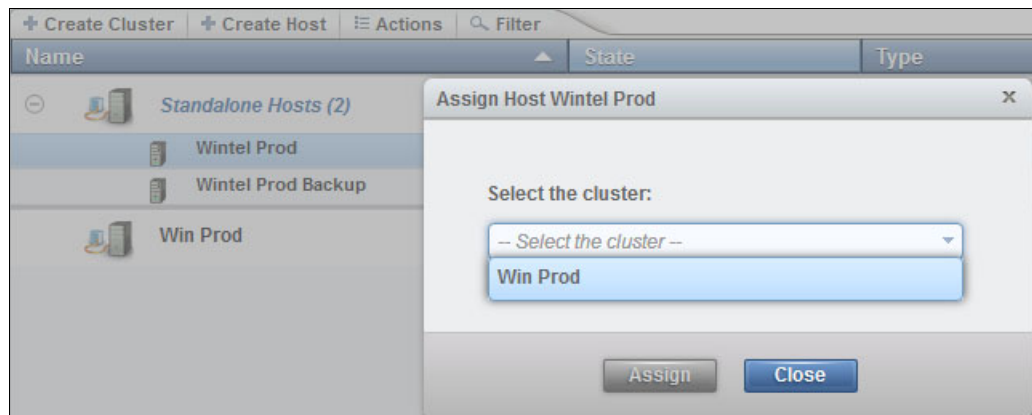

Figure 11-55 Assign Host window
3. The Assign Host window opens as shown in Figure 11-55. From the drop-down list, select the cluster to add the host to.